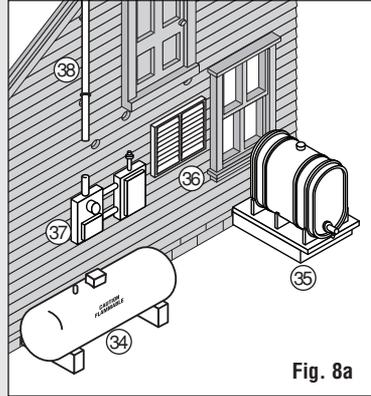

Fig. 8a
- Glue Propane Tank (34), Kerosene Tank (35), Vent (36), Electric Meter (37) and Electrical Mast (38) in place (Fig. 8a).